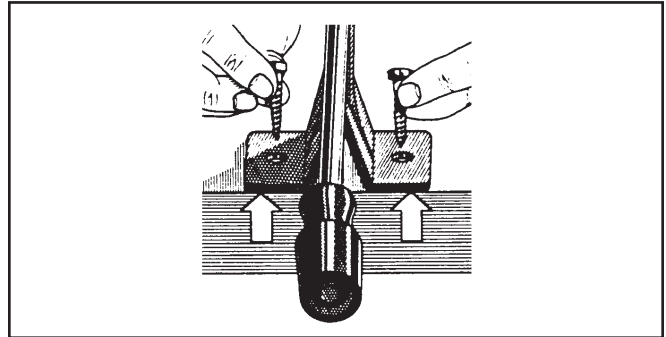

Figure 18. Rivet Spinner Mounting
1. Mount the rivet spinner flush with the side or front of a flat, clean work surface (Figure 18).